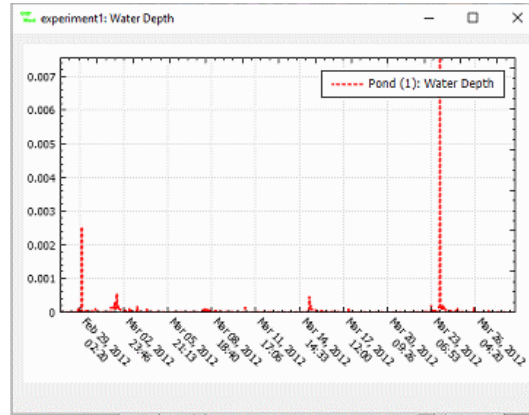

Figure 6.6: Surface water depth in the rain garden
As it can be seen the water level in the surface water compartment (i.e. *Pond (1)*) never reached the 20cm level in order for the overflow to occur. So let's look at the water level variation in the surface water compartment. Right click on *Pond (1)* and choose **Water Depth** (Figure 6.6). As it can be seen a maximum water depth of 0.7mm